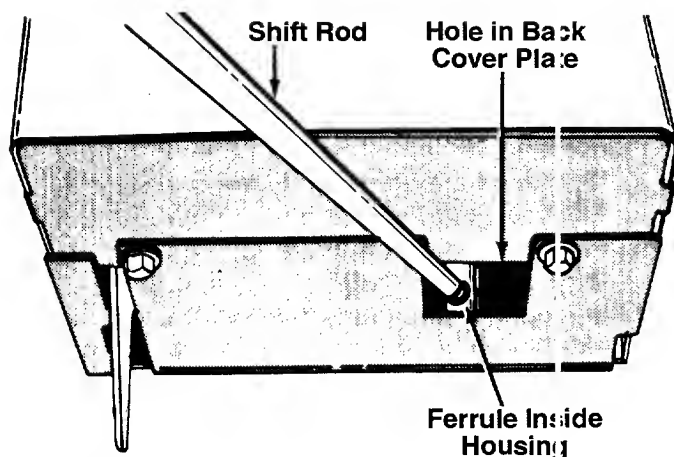

FIGURE 3.
2. Attach the shift rod to the shifting mechanism, located inside the snow thrower frame, as follows. See figure 3.